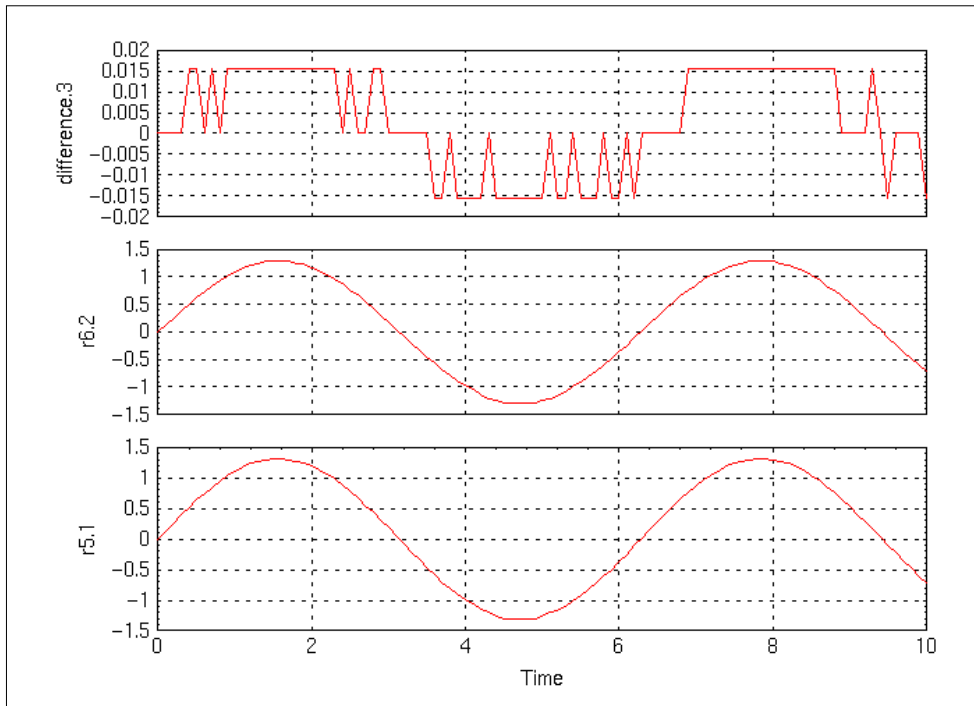

FIGURE 15-18 Plot Comparing Different Gain Radix 5 vs. 6
8. The plot should look like Figure 15-18.
The spikes in the top strip of Figure 15-18 on page 15-35 reflect the differences between the quantized sine waves in the two other strips. The distribution and heights of the spikes are caused by a combination of quantization factors: